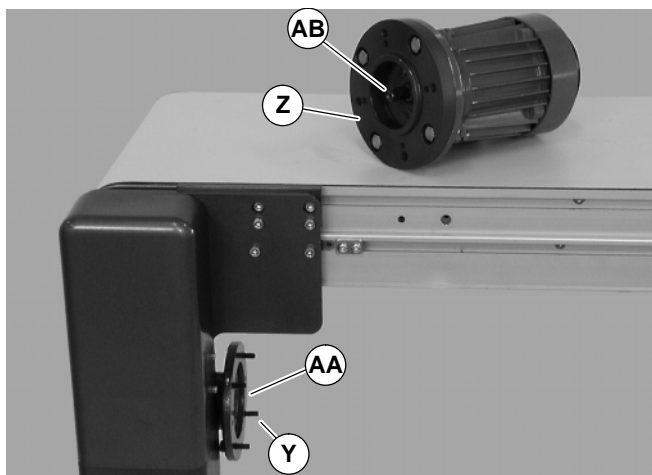

Figure 23
3. Remove four (4) screws (Y of Figure 23). Detach motor with adapter flange (Z) from gear reducer (AA). Retain motor output shaft key (AB).